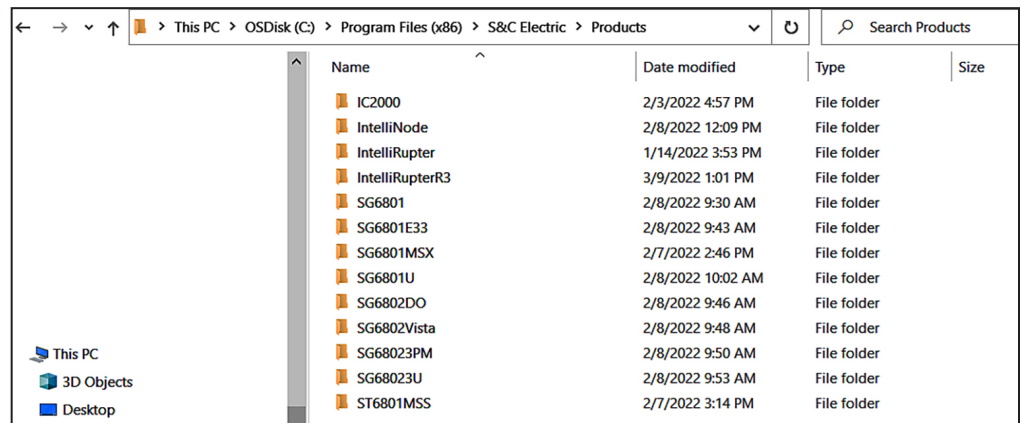

Figure 28. Select the program folder to be uploaded.
- STEP 5.** If any IntelliLink Setup Software is already installed, remove it by uninstalling it from the Windows program by choosing the **Uninstall** option. See Figure 28.